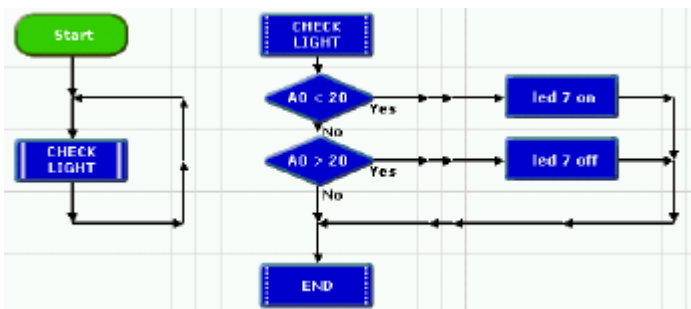

Fig 17. Light level monitoring system.
- Build the program shown in Fig 17. This checks just the light sensor. As long as the light level is above 20, the artificial lighting (represented by LED 7) is switched off. If it falls below 20, the lighting is switched on.